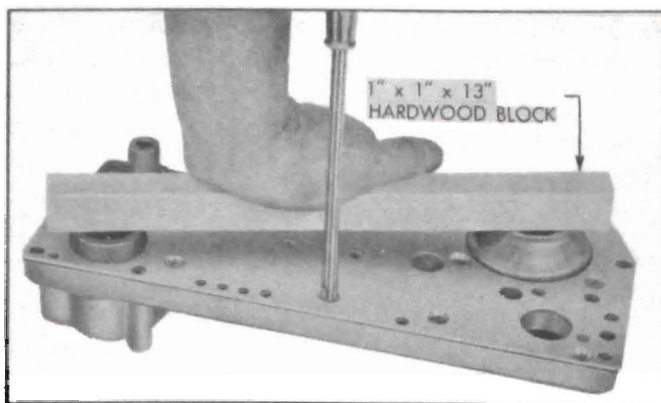

Figure 5-56—Removing Servo Body Spacer Plate
2. Remove servo body spacer plate attaching screw at reverse servo which is in line with the low servo then place a 1"x1"x13" wooden block across the low and reverse servo spring seats. See figure 5-56.
4. Install a new spacer plate gasket and place spacer plate in position over spring seats. Place a 1"x1"x13" wooden block across spring seats to compress the springs while installing the spacer plate screws (fig. 5-56). Tighten screws uniformly to avoid distorting spacer plate.